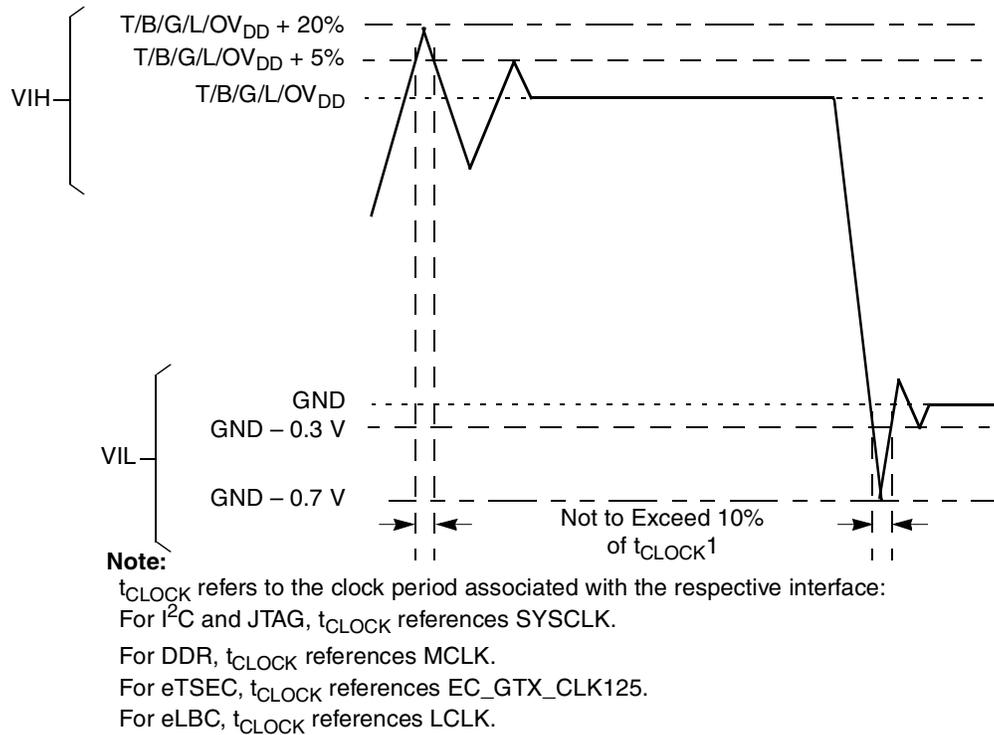

Figure 2. Overshoot/Undershoot Voltage for $TV_{\text{DD}}/BV_{\text{DD}}/GV_{\text{DD}}/LV_{\text{DD}}/OV_{\text{DD}}$
- (M,L,O)V_{IN} may overshoot/undershoot to a voltage and for a maximum duration as shown in Figure 2.
Figure 2 shows the overshoot and undershoot voltages at the interfaces of the MPC8572E.